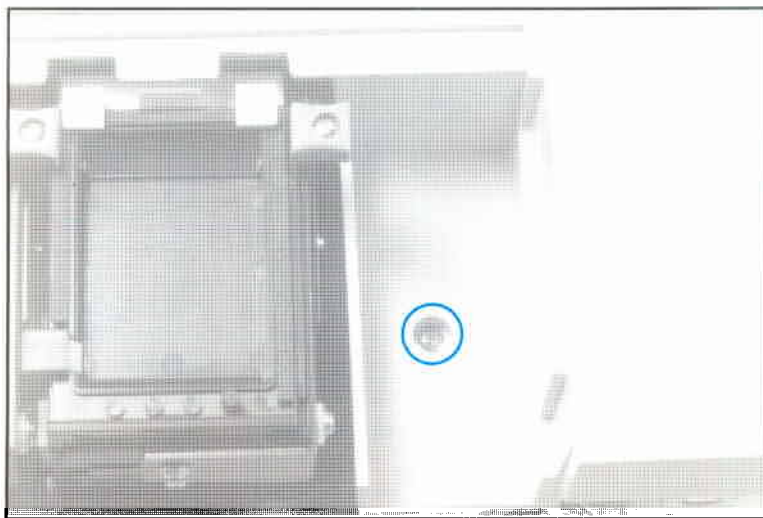

Figure 6-13      Top Cover Screws (3)
5. Remove the (1) screw shown in Figure 6-13.